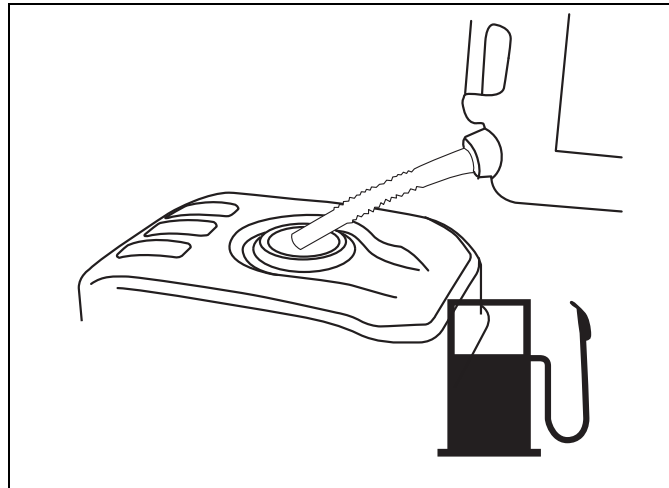

Figure 4-5. Adding Fuel
- Turn water pump OFF and let it cool at least two (2) minutes before removing fuel cap. Loosen cap slowly to relieve pressure in tank.
2. Slowly add regular unleaded fuel to fuel tank. Be careful not to overfill. Fill to red indicator ring on the fuel filter, this will allow for fuel expansion (Figure 4-5).